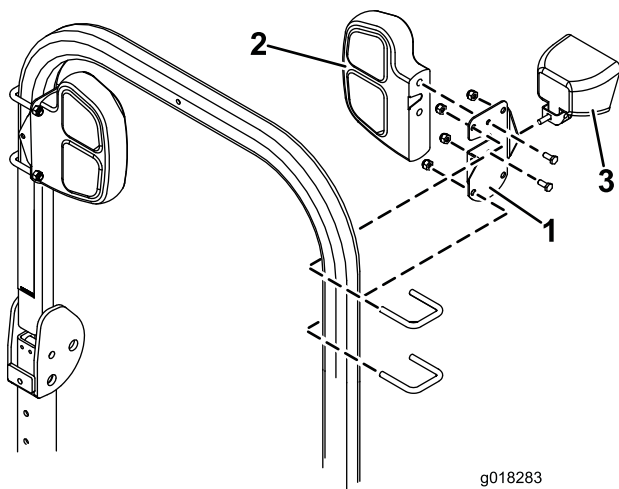

Figure 6
1. Mount the appropriate tail light flasher to each light bracket, keeping the black lens towards the front of the machine, using 2 bolts (M8–1.25) positioned as shown in (Figure 6). Tighten the bolts to 6 ft–lbs (8.1 N–m).
2. Secure a work light to each bracket using a carriage bolt and locknut (Figure 6). Discard the lock washer and nut included with the lights.
3. Mount each of the light brackets to the inside of the ROPS using 2 U-bolts and 2 locknuts (3/8–16), positioning it as shown in Figure 6.